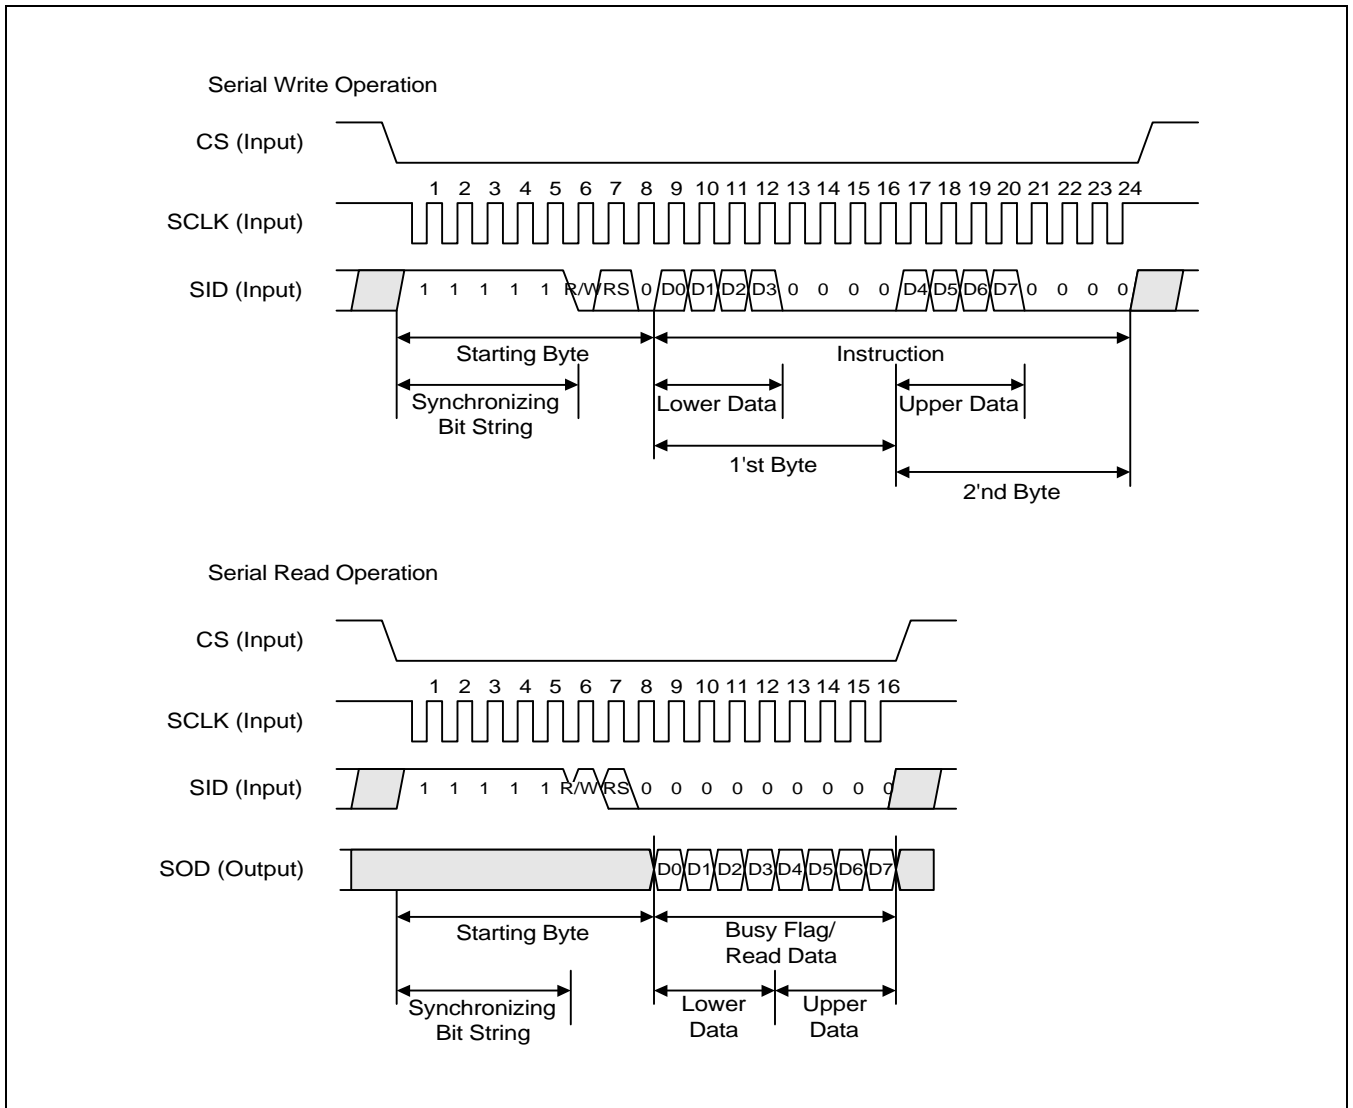

Figure 19. Timing Diagram of Serial Data Transfer
Before transfer real data, start byte has to be transferred. It is composed of succeeding 5 "High" bits, register read write control bit (R/W), register selection bit (RS) and end bit that indicates the end of start byte. Whenever succeeding 5 "High" bits are detected by S6A0073, it resets the serial transfer counter and prepares to receive next information. The next input data is the register selection bit which determines which register will be used, and read write control bit that determine the direction of data. Then end bit is transferred, which must have "Low" value to show the end of start byte. (refer to Figure 19, Figure 20)